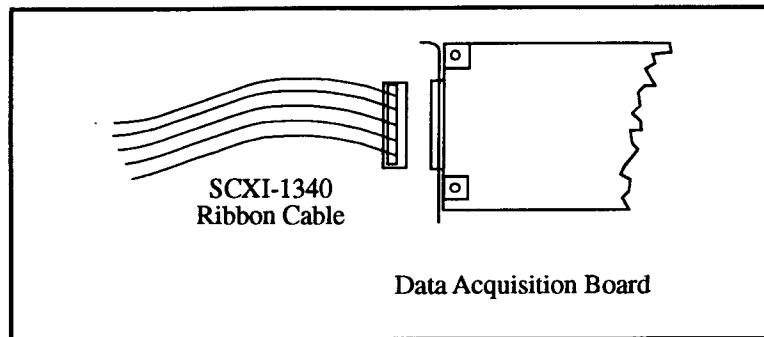

Figure 2. Cable to I/O Connector Connection
- Connect the loose end of the SCXI-1340 cable to the I/O connector on the data acquisition board as shown in Figure 2. The SCXI-1340 makes a pin-to-pin connection from the mounting bracket connector to the breakout connector and the connector at the loose end of the cable.